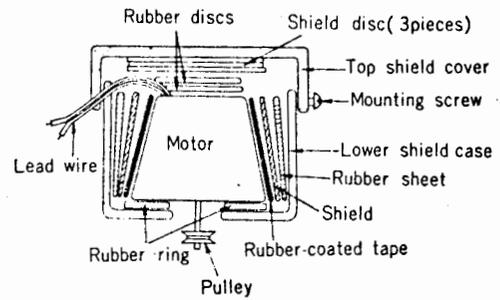

Fig. 9
- 2) Mounting structure of the motor is illustrated in Fig. 9. Loosen the mounting screw and remove the top shield cover. By slightly pushing on the pulley, the motor can be removed. The pulley is replaced together with the motor.